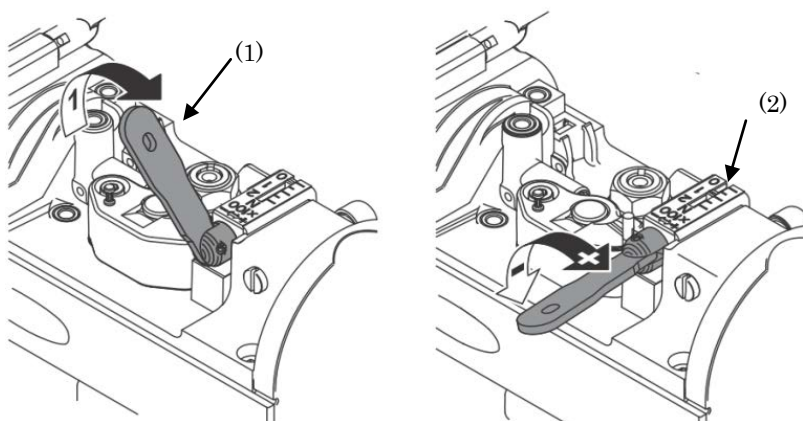

Fig. 2.2.6 (a) Contact pressure adjustment of the Robacta drive
- 1 Raise the roller fixation part (1) and release the fixation referring to Fig. 2.2.6 (a).
- 2 Lay down the part (1) with hinge of the root.
- 3 Rotate the part (1), Adjust the scale of the contact pressure of (2) position referring to Table 2.2.6.